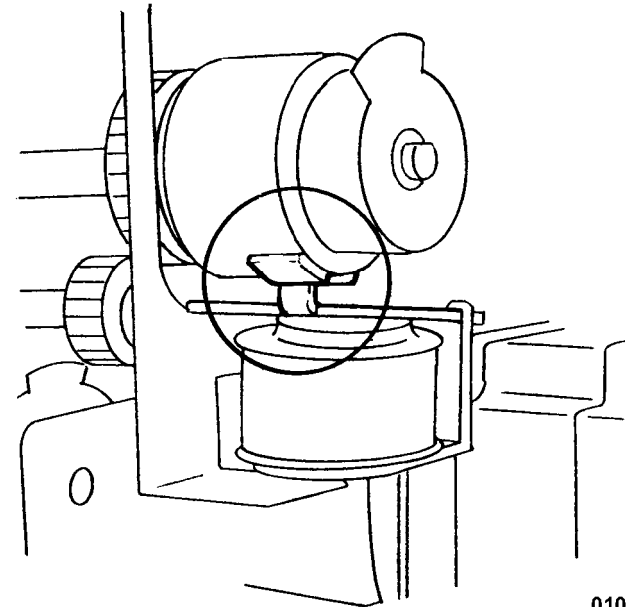

Figure 8 Inserting Pawl into Clutch Grooves
2. When installing the Clutch, be sure to insert the Pawl into Clutch grooves (Figure 8).